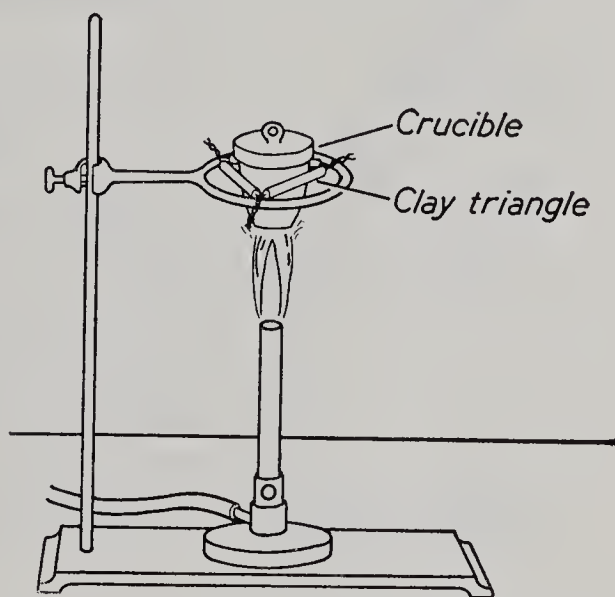

Fig. 19. Heating a covered crucible and its contents.
1. Support a crucible with its cover on a clay triangle which in turn is supported by a ring attached to a stand (Fig. 19). Heat the crucible and cover gently at first and then, for at least one minute, with the hottest flame of your burner. Cool to room temperature and then weigh the crucible together with its cover.